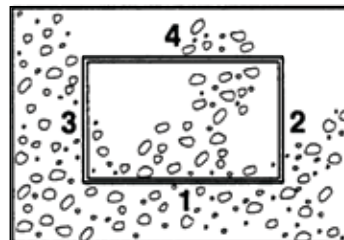

Figure 5. Making Cuts
2. Make your cuts in the order shown in Figure 5, starting with cut 1 (base horizontal cut) and proceeding with the remaining three cuts.